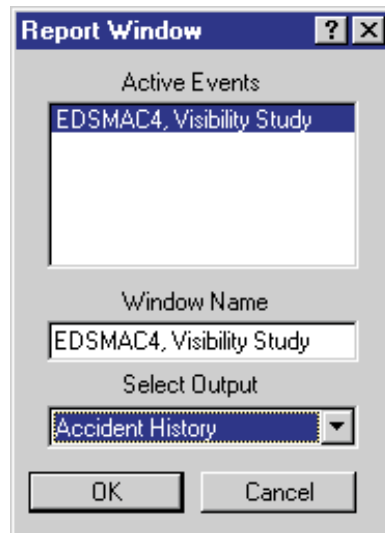

Figure 5-13 Report Window Information dialog, showing the name of the event(s) in the current case.
- Click *Add New Object*. The Report Window Information dialog is displayed, as shown in Figure 5-13, and includes a list of the active events (*EDSMAC4, Visibility Study* is the only event in this tutorial). The Report Window Information dialog also includes the user-editable *Report Window Name* text field and *Selected Output* option list.